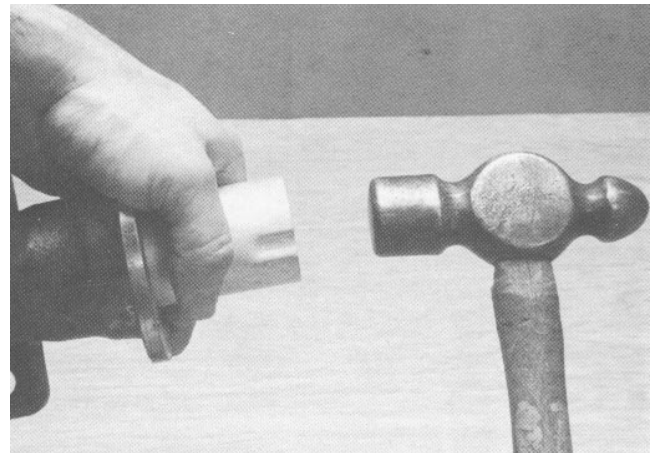

Figure 15
12. Put a light coating of No. 1 Permatex on the outside diameter of a new grease seal (surface that contacts the axle housing). Install the new seal to a depth of 1.218 in. into the housing (Fig. 15, 16). After the seal has been assembled, put grease on the lip of the seal.